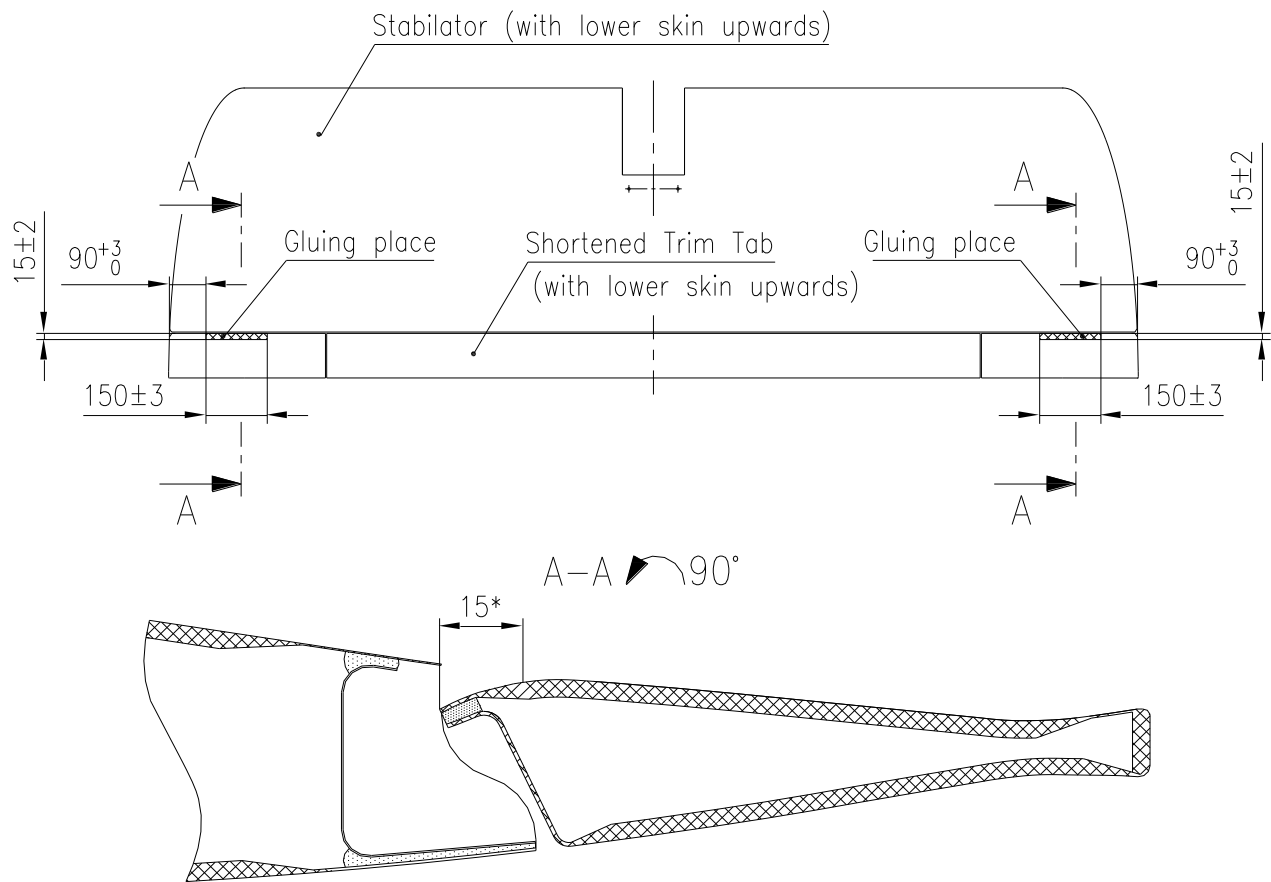

Fig. 3-2
Adjust the Trim Tab in the zero position i.a.w. Appendix 4.4.4 and fix it using the supports or saw horses. Mark the gluing places the Trim Tab i.a.w. Fig. 3-2.
Then cut the Trim Tab by the cut lines shown on Fig. 3-2 completely.
- Caution:** Pay attention to make equal and parallel gaps on the Upper and Lower Trim Tab Skins when cutting. Also the sectional areas of the shortened Trim Tab and of the Trim Tab Tips shall be rectangular to their Upper and Lower Skins. Ensure the width of the gaps as specified on Fig. 3-2.